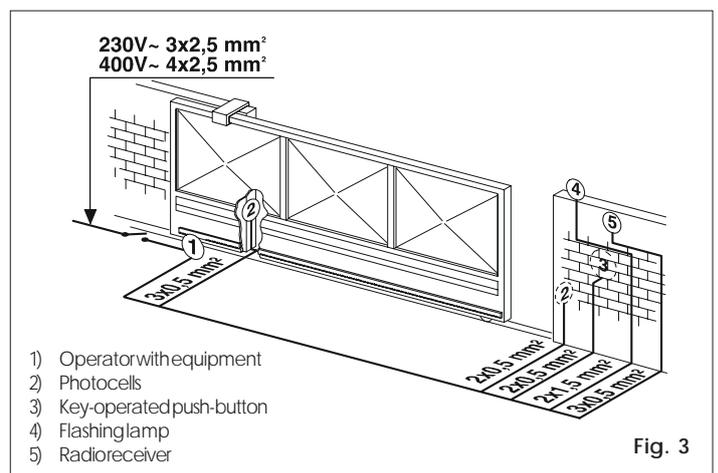

Fig. 3
- 4) Lay the electric cables for connection to the accessories and power supply as shown in figure 3. To make the connections efficiently, allow the cables to project by about 40 cm from the hole (Fig.5-6 ref.1) of the foundation plate.
Observe points 10, 11, 12, 13 and 14 of the GENERAL SAFETY RULES. Observing the instructions in Fig. 3, route the cables through the raceways and make the necessary electric connections to the selected accessories. Always separate power cables from control and safety cables (push-button, receiver, photocells, etc.). To prevent any electric noise whatever, use separate sheaths.